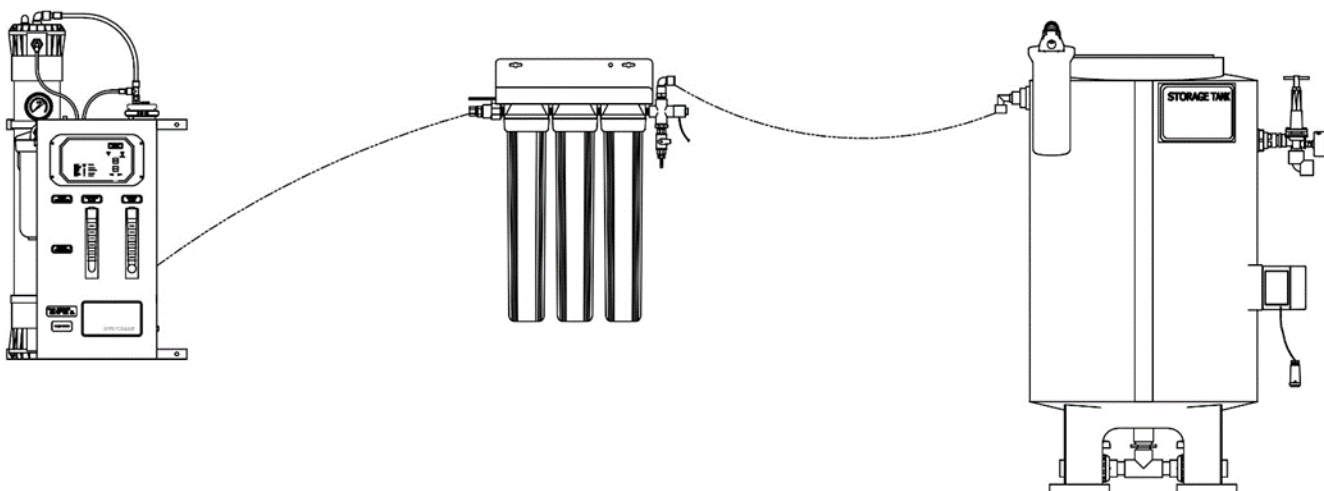

Figure 4
4. Connect DI to storage tank hose to the 1/2" MPT x 3/4" GHT outlet fitting (**Figure 4**).
2. Connect the Wall Mount DI product outlet hose to the storage tank's inlet (**Figure 4**).